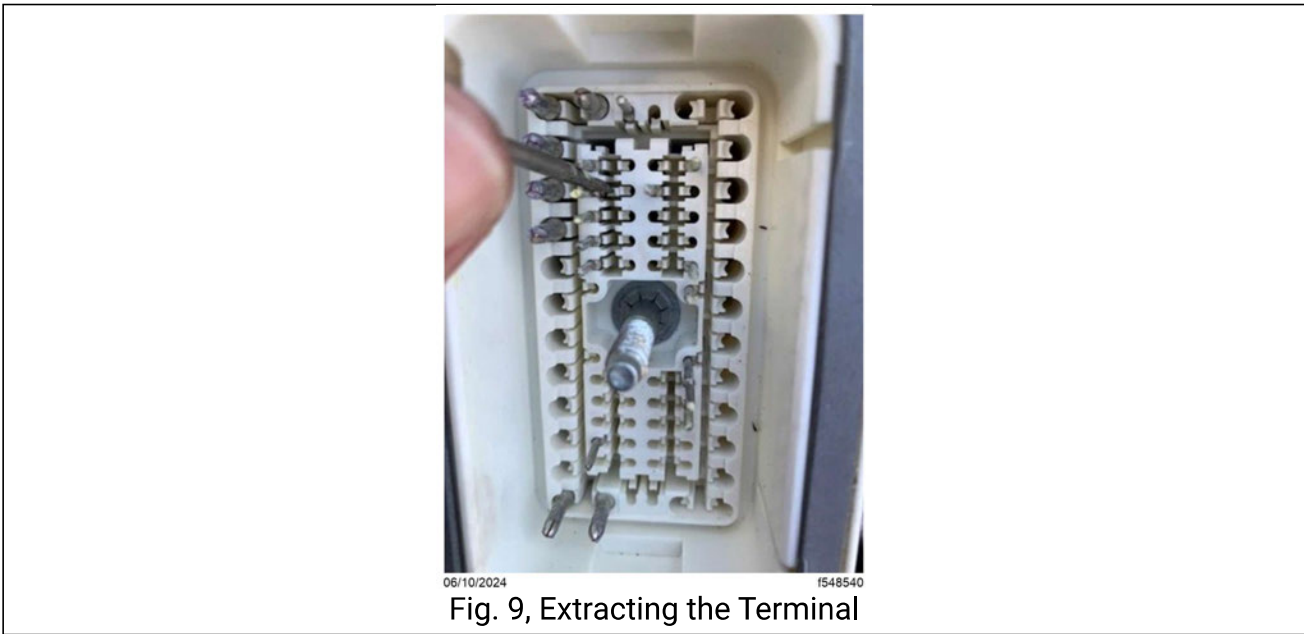

Fig. 9, Extracting the Terminal
- To extract the terminal, move the tang down and away from the terminal with a small screwdriver or terminal tool while gently pulling on the terminal outer end. See Fig. 9.